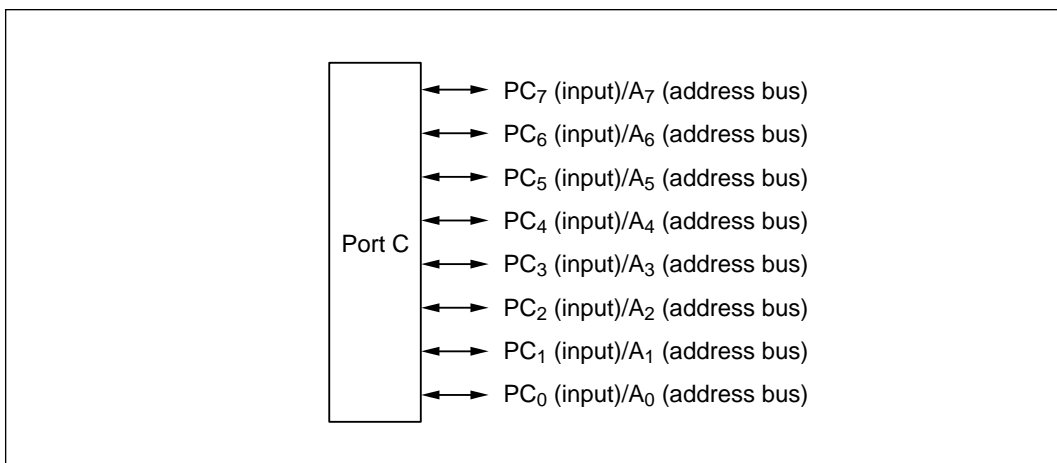

Figure 10-85 Pin Functions in Modes 2 and 4
(2) Pin Functions in Modes 2 and 4: Port C can be used for address output (A₇ to A₀) or general-purpose input. A pin is used for address output if the corresponding PCDDR bit is set to 1, and for general-purpose input if this bit is cleared to 0. Figure 10-85 shows the pin functions in modes 2 and 4.